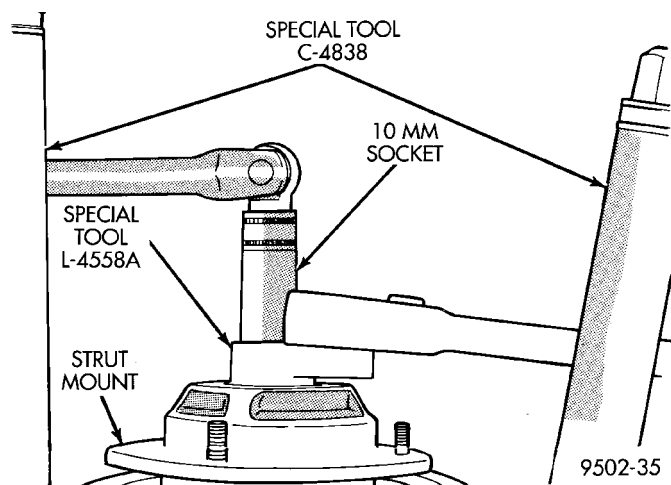

Fig. 61 Strut Shaft Retaining Nut Removal Tools
(4) Install Socket, Strut Nut, Special Tool L-4558A (or L-4558) on the strut shaft retaining nut (Fig. 61). Then install a 10 mm socket on the hex of the strut damper shaft (Fig. 61). While holding strut shaft from turning, remove the strut shaft retaining nut.
(7) Install Socket, Strut Nut, Special Tool L-4558A (or L-4558) on the strut shaft retaining nut (Fig. 61). Then install a 10 mm socket through the center of the socket and on the hex of the strut shaft (Fig. 61). While holding strut shaft from turning, torque strut shaft retaining nut to 75 N-m (55 ft. lbs.).